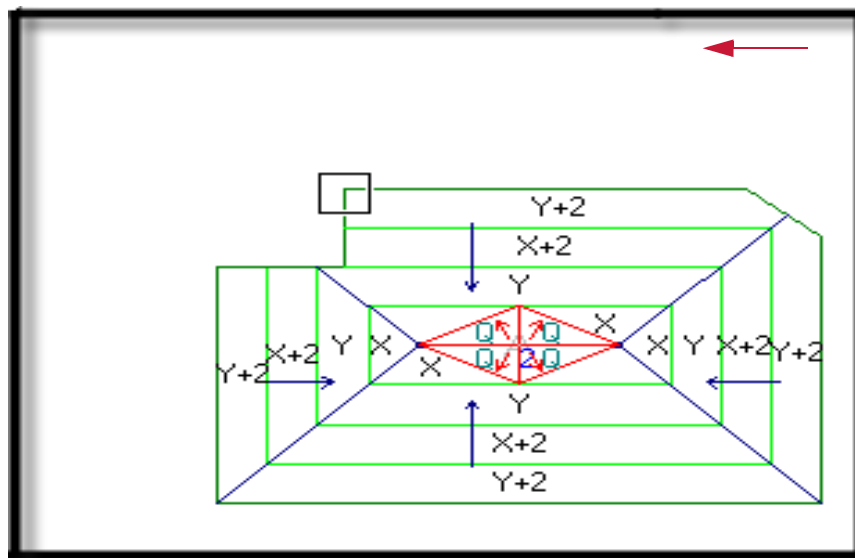

Figure 3-5 Changing the reference point again
13. Click the **Reference Point** icon, , and position the reference point as shown in Figure 3-5.